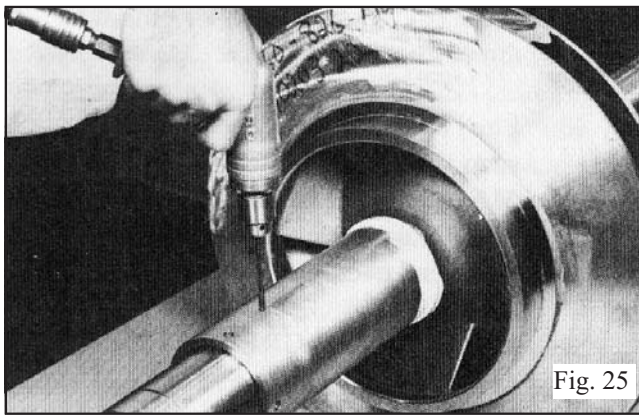

Fig. 25
6. Place the sleeve O-ring (3-914-9) onto the shaft, into the sleeve counterbore. Verify that Dimension "A" (Fig. 23) is maintained, then using a pin spanner wrench and hammer, securely tighten the shaft sleeve nuts (3-015-9). Then, drill a shallow recess in the shaft through the set screw hole in each of the shaft sleeve nuts. Lock each shaft sleeve nut in position with cup point set screws (3-902-9). (See Fig. 25) A low strength sealant, such as Loctite 271, can be used to retain set screws.